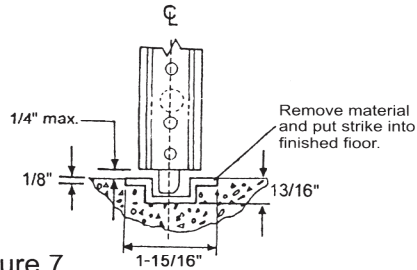

Figure 7
- Install bottom strike into finished floor and be sure to align center line of bottom latch with center line of bottom strike. (See Figure 7.)